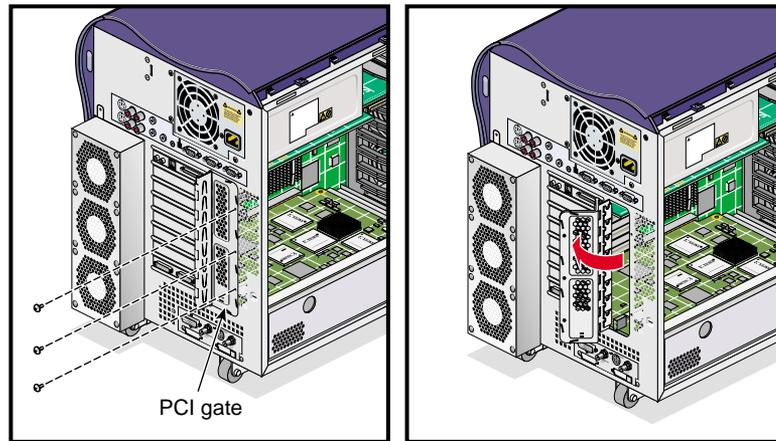

Figure 3-28 Opening the PCI Gate
1. Remove the three screws that secure the PCI gate to the enclosure. Then open the PCI gate (see Figure 3-28).